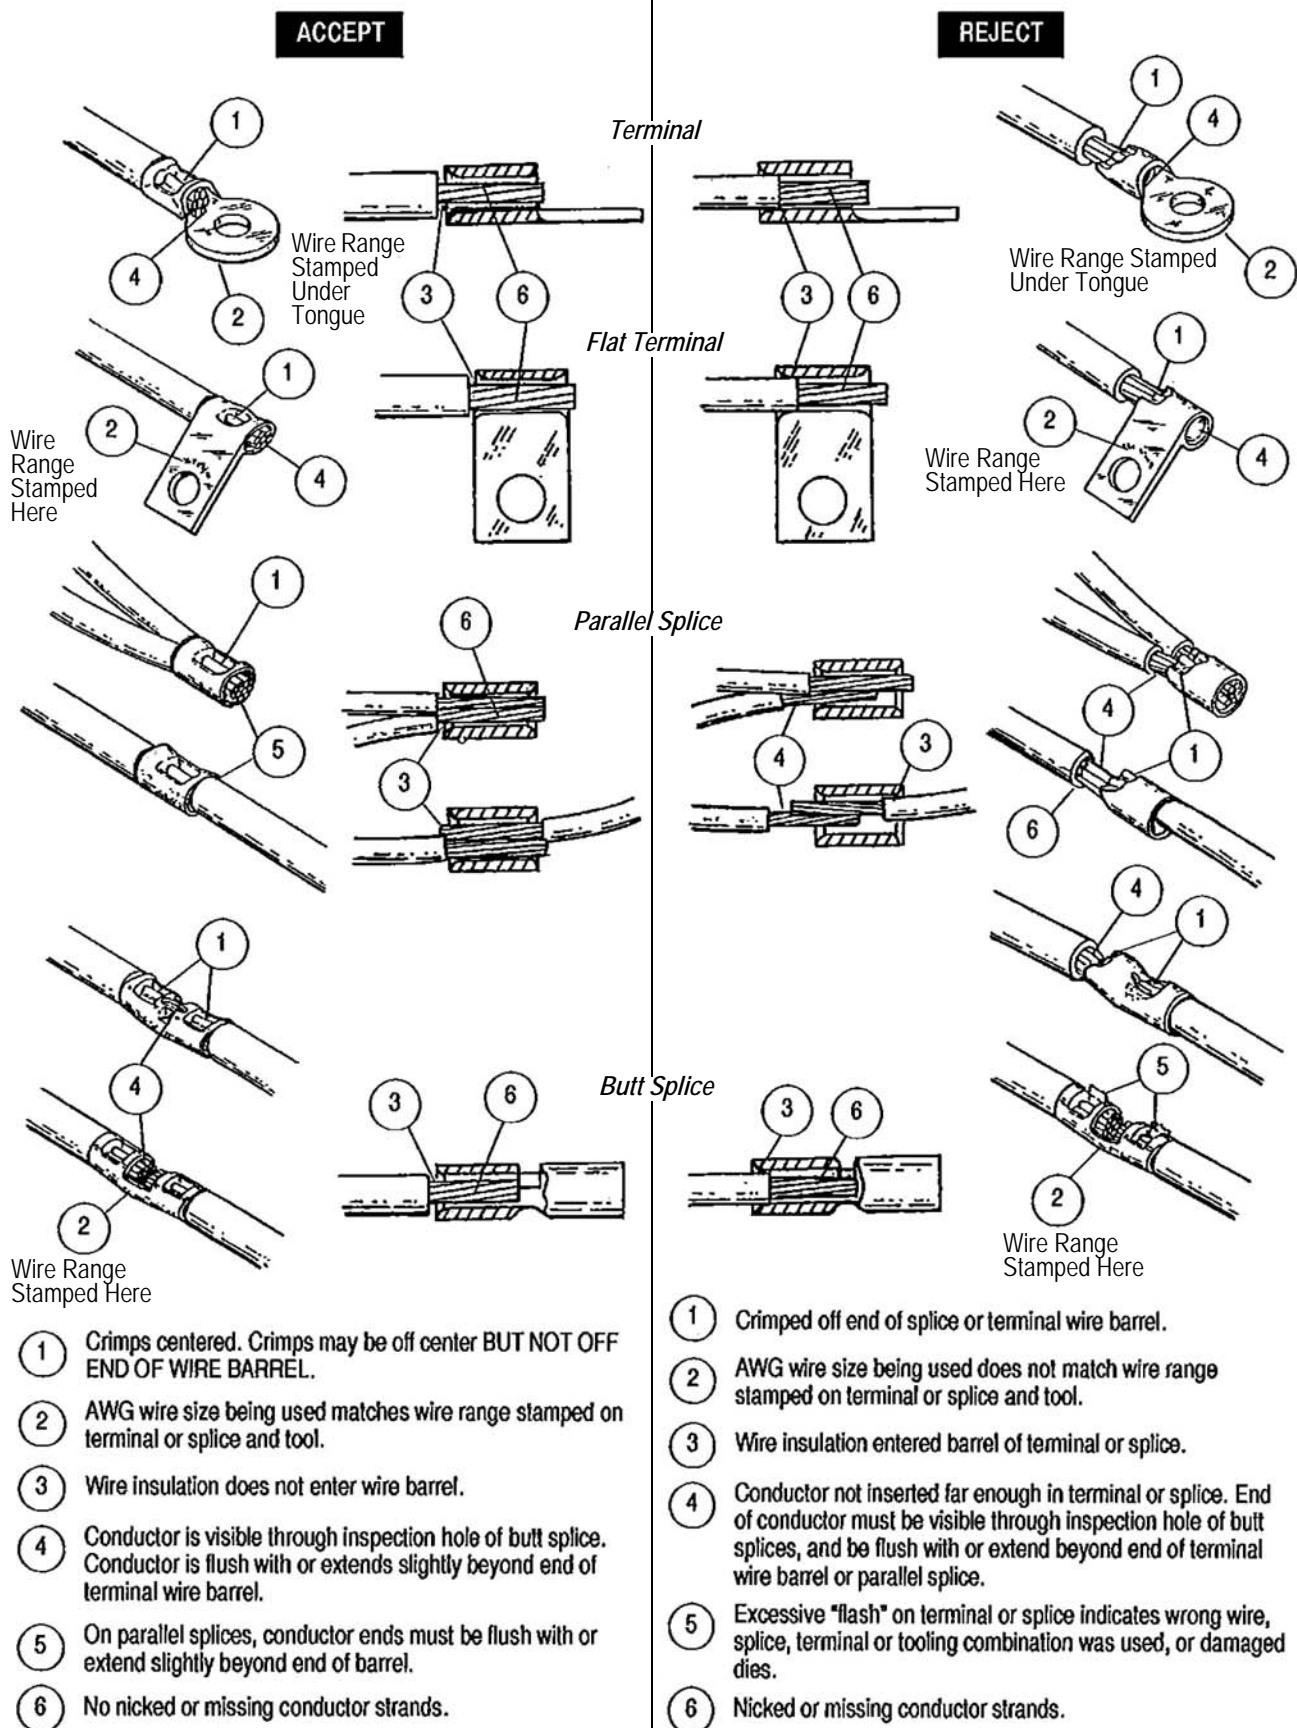

Figure 8
6. Refer to Section 5 and Figure 8 for terminal or splice crimp inspection procedure.
Inspect crimped terminals and splices by checking the features described in Figure 8. Use only the terminations that meet conditions shown in the "ACCEPT" column. "REJECT" terminations can be avoided through careful use of instructions in Section 4, and by performing regular tool maintenance as instructed in Section 6.